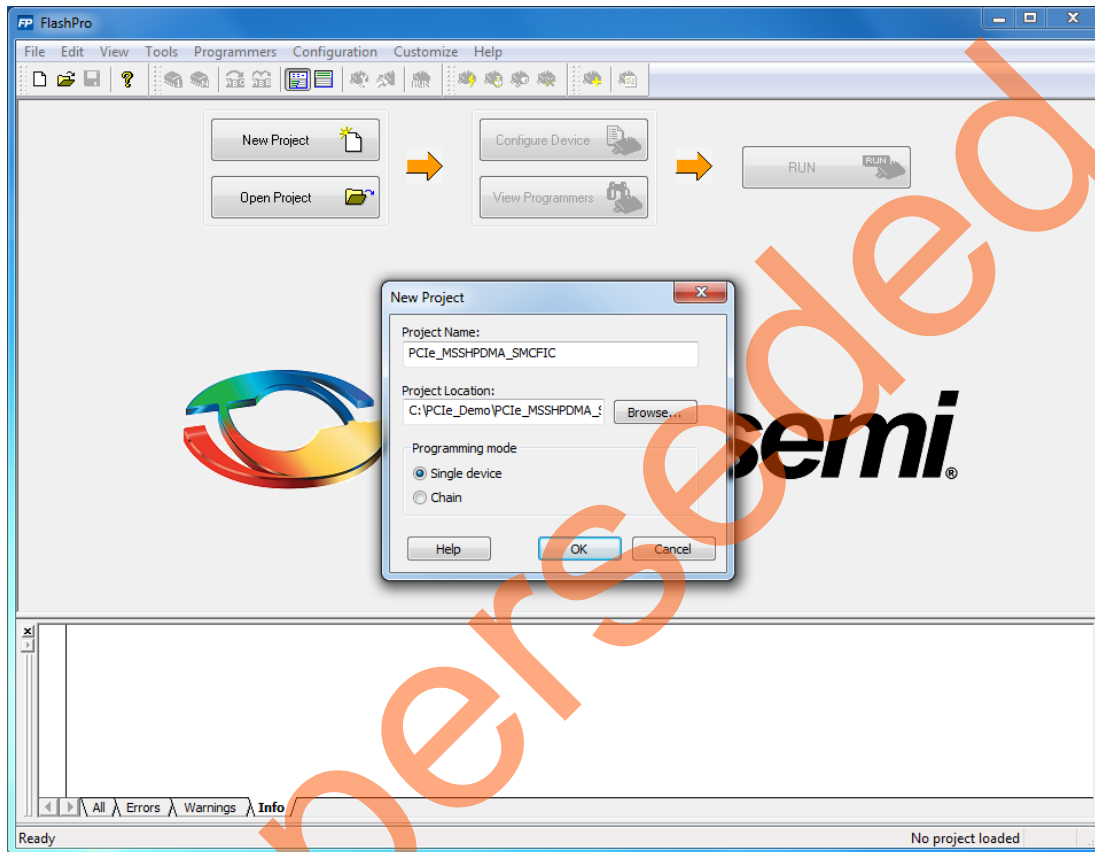

Figure 4 • FlashPro- New Project Dialog
2. Click **New Project**. Figure 4 shows the **FlashPro - New Project** dialog.